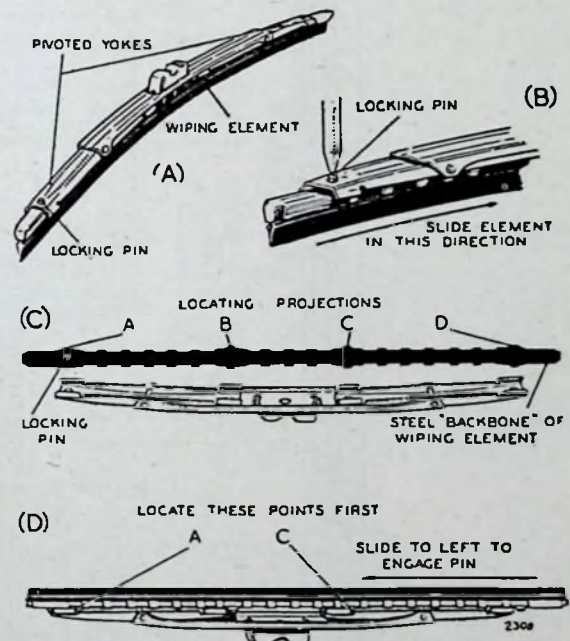

FIG. 15.—Method of renewing the rubber wiper elements.
New elements should be handled with care. It is particularly important to keep the rubber clean and free from oil and petrol and to avoid distortion of the metal "backbone". Fig. 15 (A) shows an assembled Lucas "Rainbow" windscreen wiper blade. To replace a defective element, proceed as described below:
Press down the locking pin and slide the element in the direction shown in Fig. 15 (B) to free it from the supporting yokes.
There are four pairs of locating projections along the "backbone" of the new wiping element, as shown in Fig. 15 (C).
"D" into position and sliding the element to the left as shown in Fig. 15 (D) until the locking pin is heard to snap into position.